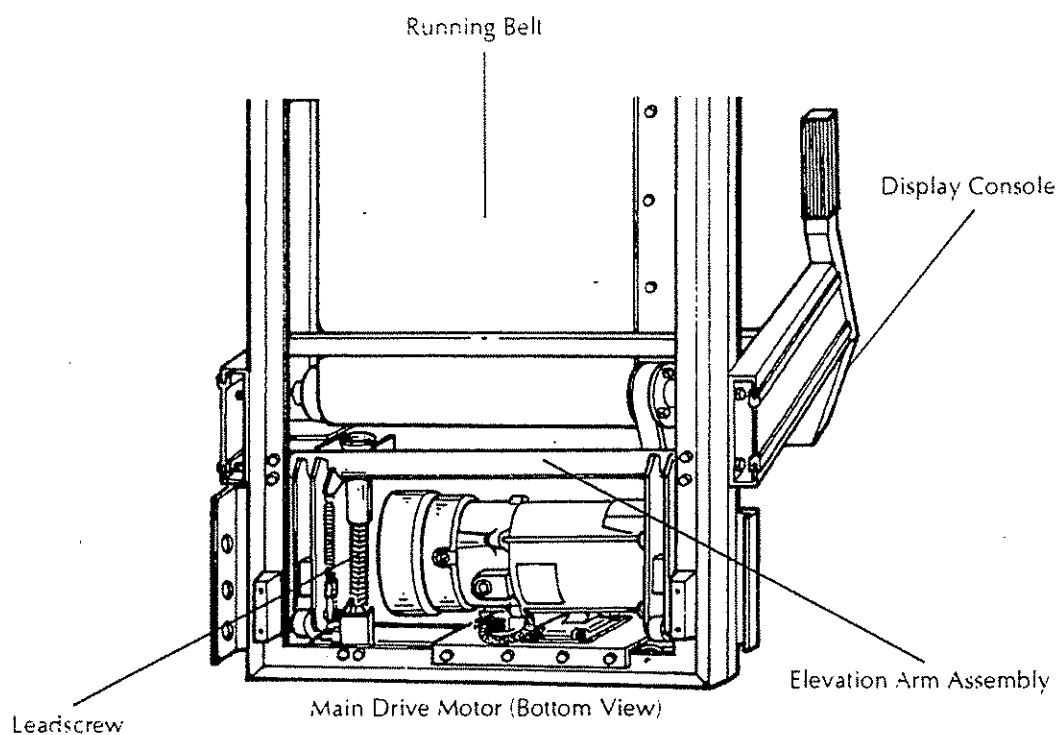

Figure 3-9: Lubricating the Elevation Assembly
3. Remove all accumulated dirt and grease from the leadscrew using a clean, dry cloth. See Figure 3-9.
4. Using a small bristle brush, apply a liberal amount of lithium grease in and around the leadscrew threads. See Figure 3-9.